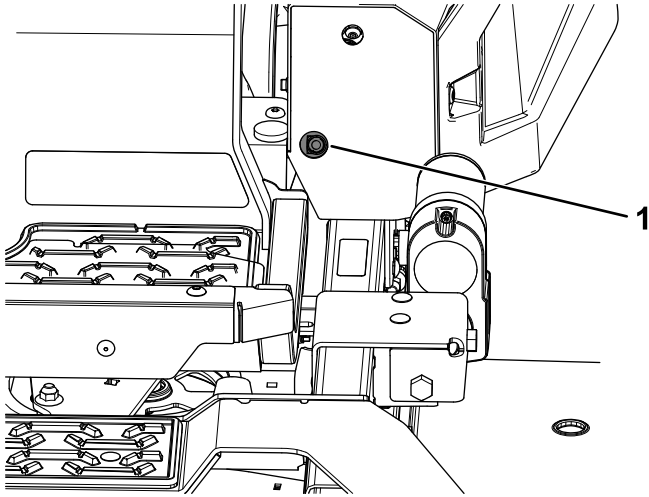
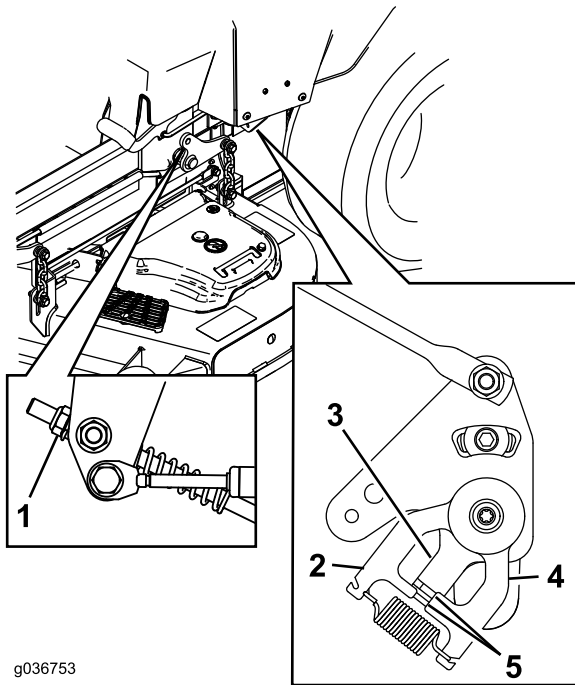

Figure 63
Figure 64
- Adjust the pump-control-rod lengths by rotating the nut in the appropriate direction until the wheels slightly creep in reverse (Figure 63 and Figure 64).